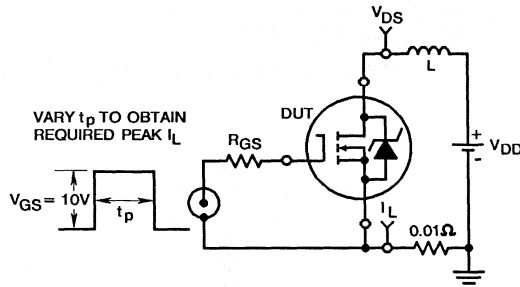

FIGURE 14. UNCLAMPED ENERGY TEST CIRCUIT
4. $V_{DD} = 50V$, Start $T_J = +25^\circ\text{C}$, $L = 1.9\text{mH}$, $R_{GS} = 50\Omega$, $I_{PEAK} = 20A$. (See Figures 14 & 15)